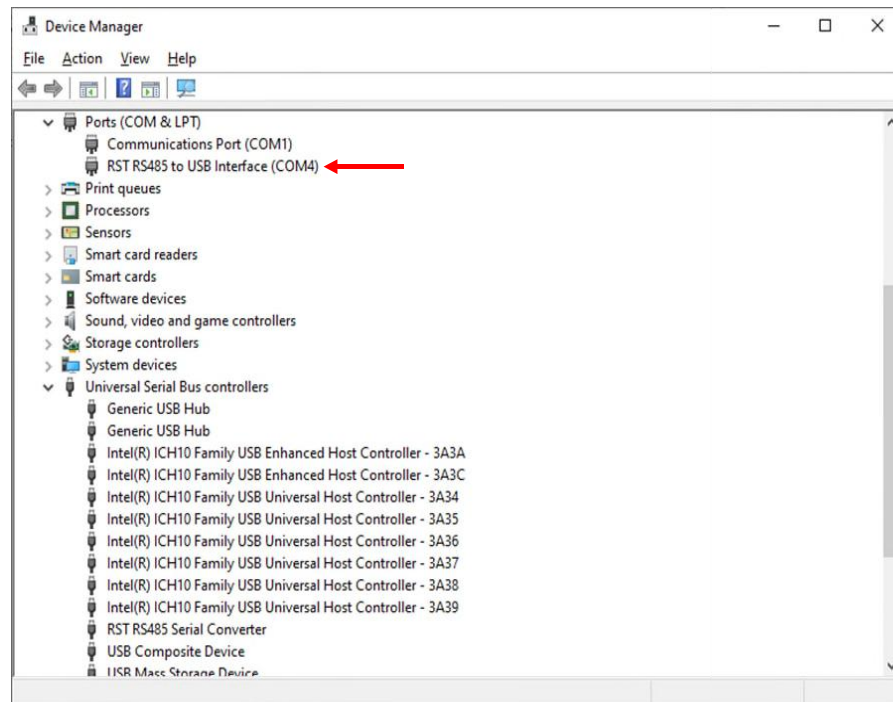

FIGURE 4-5 WINDOWS 10 AND 11 DEVICE MANAGER
8. Open the Device Manager (under the Control Panel\System, click *Device Manager*) and expand the *Ports* branch. The device appears as “RST RS485 to USB Interface” (Figure 4-5).
9. If the driver was installed correctly, the RST RS485 to USB Interface port will appear, as shown in Figure 4-5. If it was not installed correctly, a yellow exclamation mark will appear next to the device on the Device Manager.
10. Once the installation has been verified, note the COM number which has been assigned to the USB serial port. This will vary from computer to computer. In the example shown in Figure 4-5, the COM number assigned is COM4.